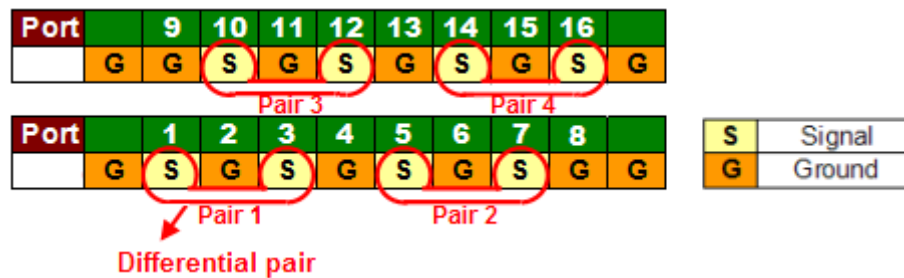
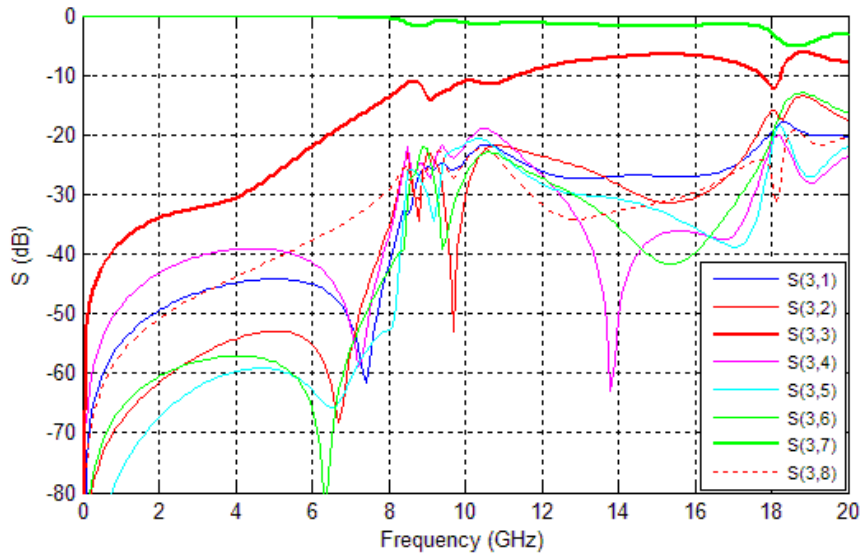

Figure 3 FX10-5mm-noGND pin assignment
Figure 4 SDD for pair 3 (ports 10-12) of FX10-5mm-noGND
The GSGSG pin assignment configuration, as shown in Figure 3, is recommended for the FX10-5mm-noGND connector. Ports 1 and 3 are grouped into Pair 1, and Ports 5 and 7 are grouped into Pair 2, etc. Figure 4 shows the corresponding SDD for pair 3 (or Ports 10 and 12), where the insertion loss (IL), return loss (RL), and crosstalk can be clearly seen, and are summarized in Table 1.